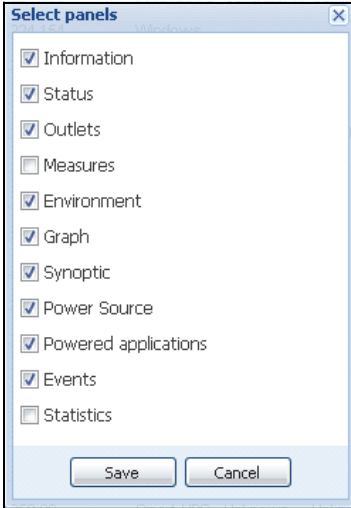

Figure 49. Panel Selection Dialog Box
- Click the selection button  to select which panels you want to add in the selection view (see Figure 49).